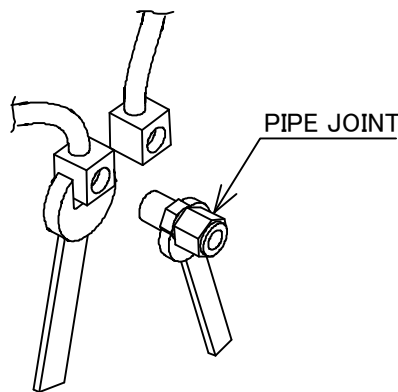

Fig.5-9 Water Coolant Tubing Connections
- (2) Connect cooling water pipes to these pumps. When connecting the cooling water pipes, screw the pipe joint while also holding the nozzle of the pump with a spanner in order to avoid deforming the cooling water pipe, as illustrated in Fig. 5-9.
- (3) The water valve is closed and coolant water supply is stopped at AC input OFF. Customer prepares the cross valve and piping, the pump is bypassed, and the coolant water can be thrown. Addition and the pipework of the valve in the customer are necessary.